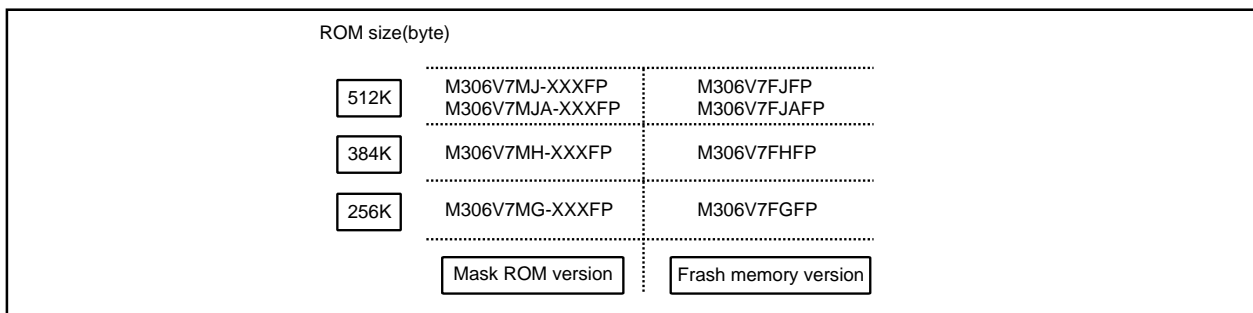

Figure 1.5.1 ROM development
- Memory size Refer to Figure 1.5.1 ROM development
| Memory size | ROM | Refer to Figure 1.5.1 ROM development |